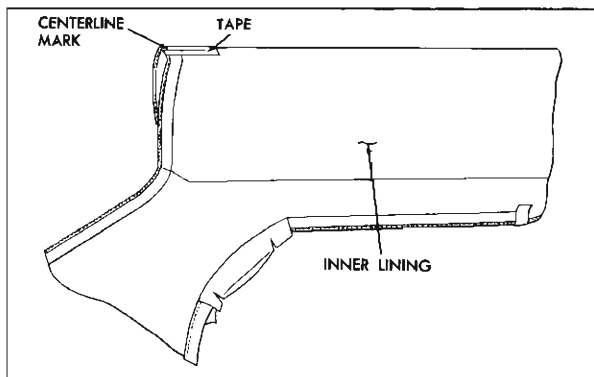

Fig. 21-49 Marking Top Assembly
26. Fold new top material in half so that inner lining of top material is exposed (Fig. 21-49). Install a 6" piece of tape on inner surface at centerline fold of new top material (Fig. 21-49). Using a pencil, mark